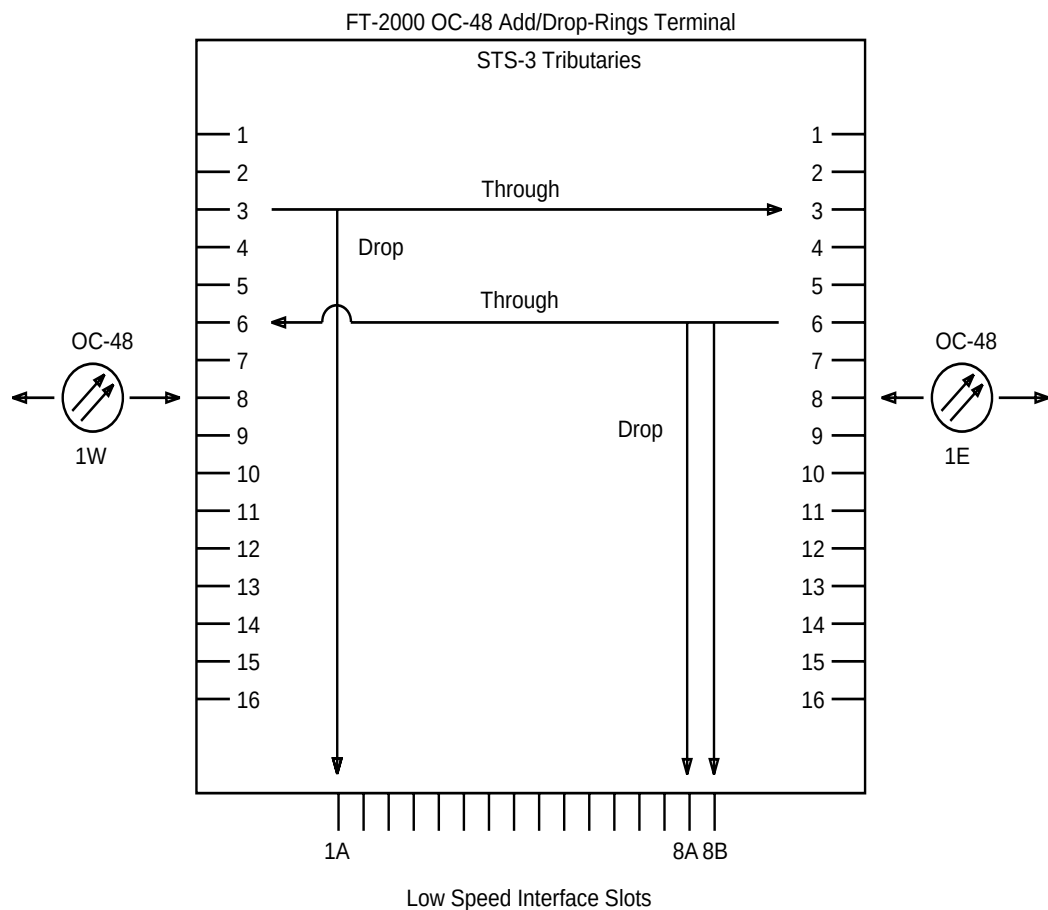

Figure 8-3. STS-3 Bridge Cross-Connections at an FT-2000 OC-48 Add/Drop-Rings Terminal
- **Bridge cross-connections:** In Release 4.1, bridge cross-connection is limited to a drop cross-connection and a superimposed through cross-connection sharing the same source (drop and continue). The drop cross-connection and through cross-connection share the same incoming STS-3 tributary of OC-48 high-speed line 1E or 1W. For example, Figure 8-3 shows incoming service STS-3 tributary 3 of OC-48 high-speed line 1W cross-connected to outgoing service STS-3 tributary 3 of OC-48 high-speed line 1E. Incoming service STS-3 tributary 3 of OC-48 high-speed line 1W is also cross-connected to service low-speed interface slot 1A.
In Release 5 and later releases, cross-connections can be made to/from any service low-speed interface slot and the companion low-speed interface slot (for example, 2A and 2B) when the slot pair is provisioned for the OC-3 1+1 protected mode. For example, Figure 8-3 shows incoming service STS-3 tributary 6 of OC-48 high-speed line 1E cross-connected to outgoing service STS-3 tributary 6 of OC-48 high-speed line 1W. Incoming service STS-3 tributary 6 of OC-48 high-speed line 1W is also cross-connected to service low-speed interface slots 8A and 8B.